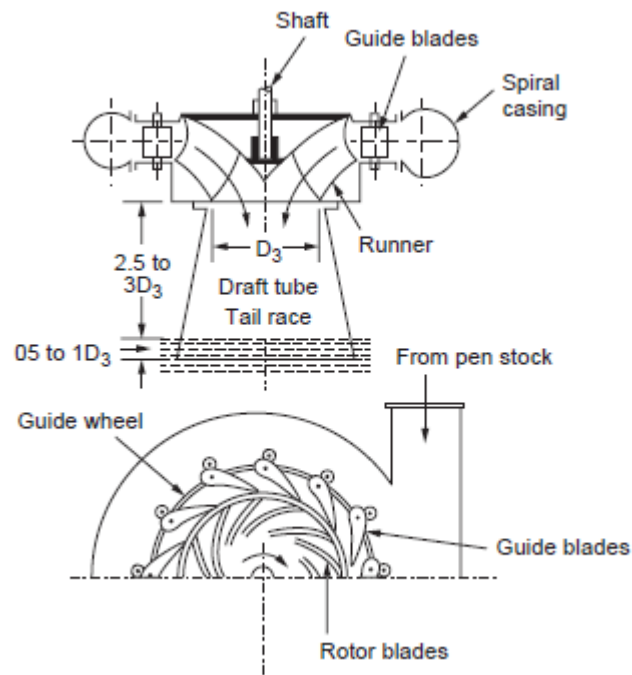

Fig. 5.3 Francis turbine
**Answer:** Francis turbine is a reaction type turbine. Earlier Francis turbines were purely radial flow type but modern Francis turbines are mixed flow type in which water enters the runner radially and leaves axially at the centre. Figure 5.3 shows the main components of Francis turbines.